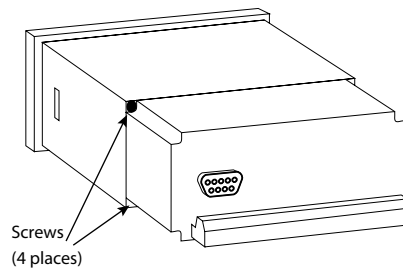

Figure 17: Screws
5. Remove the four machine screws (see Figure 17) which hold the two sections of the case together.